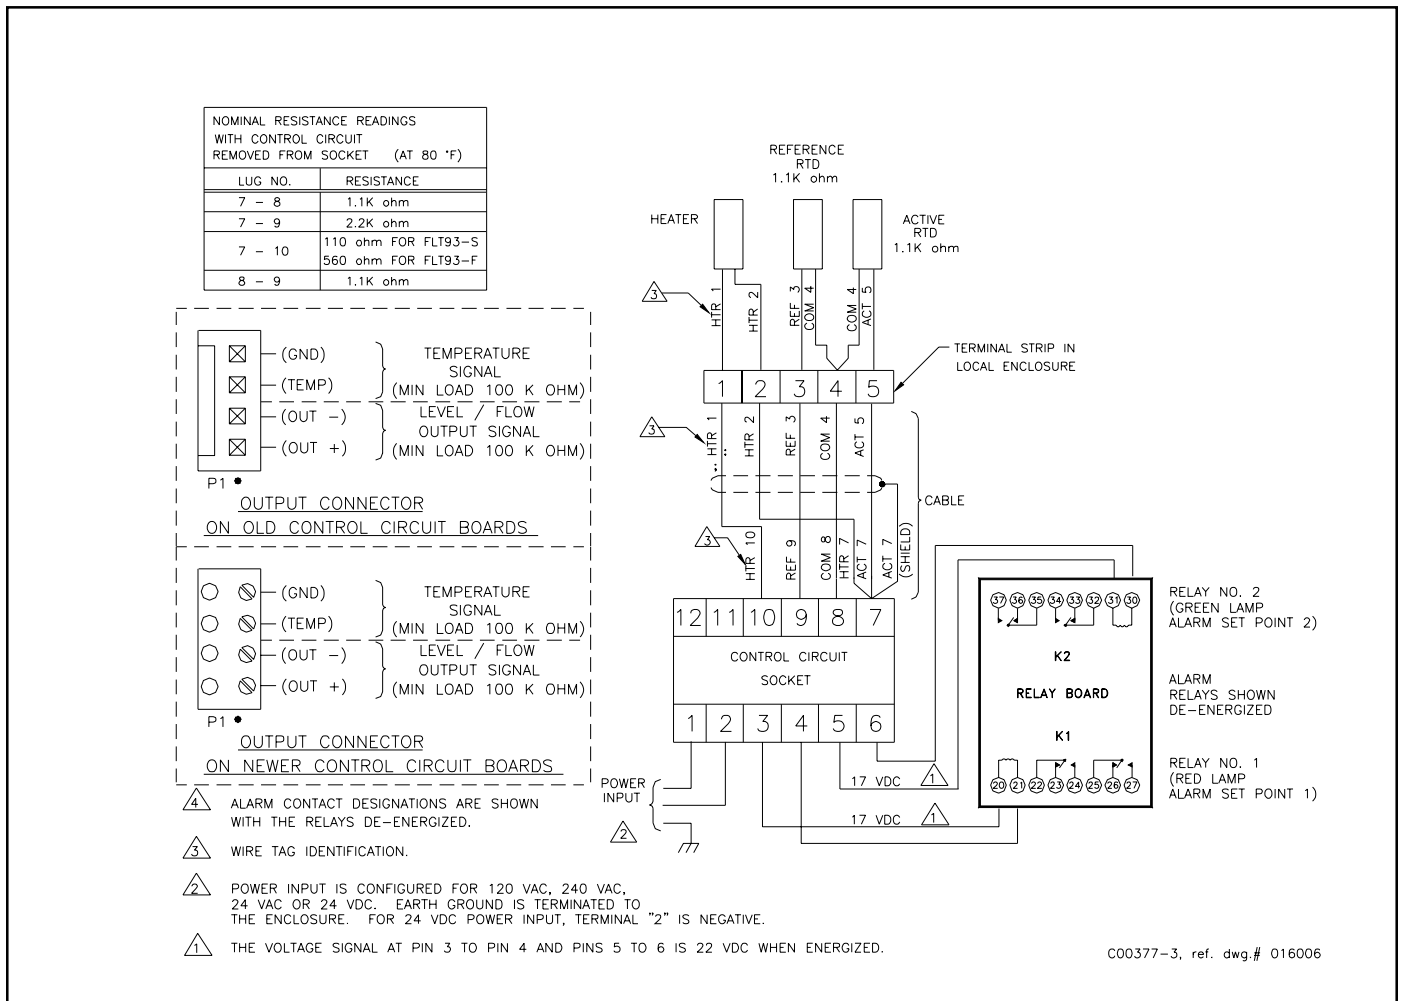

Figure 2-7. Auxiliary Relay Board Wiring Diagram
The control circuit can be ordered with switching voltage outputs without ordering a relay board. This can be used with customer supplied relays or any other device that has a differential input. The output voltage is 17 Vdc and will drive a load as low as 1500 ohms. Refer to Figure 2-7 for the output terminals.
1. Run a four-conductor cable from the control circuit to the auxiliary relay board if the board was not factory installed. Use the wiring diagram in Figure 2-7 to wire the boards together.
2. Attach the customer wiring as desired using Figure 2-7 as a wiring guide.